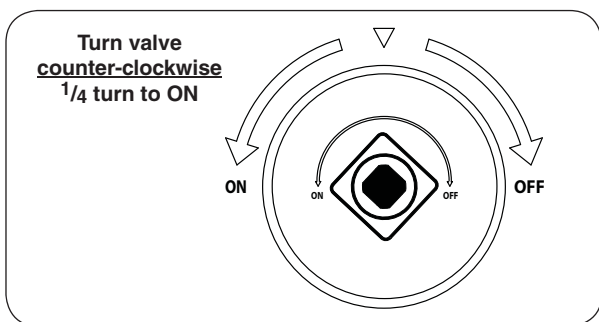

Fig. 29-2 ON/OFF key valve detail
2. Turn the ON/OFF key valve counter-clockwise a 1/4 turn to the **ON** position (Fig. 29-2).